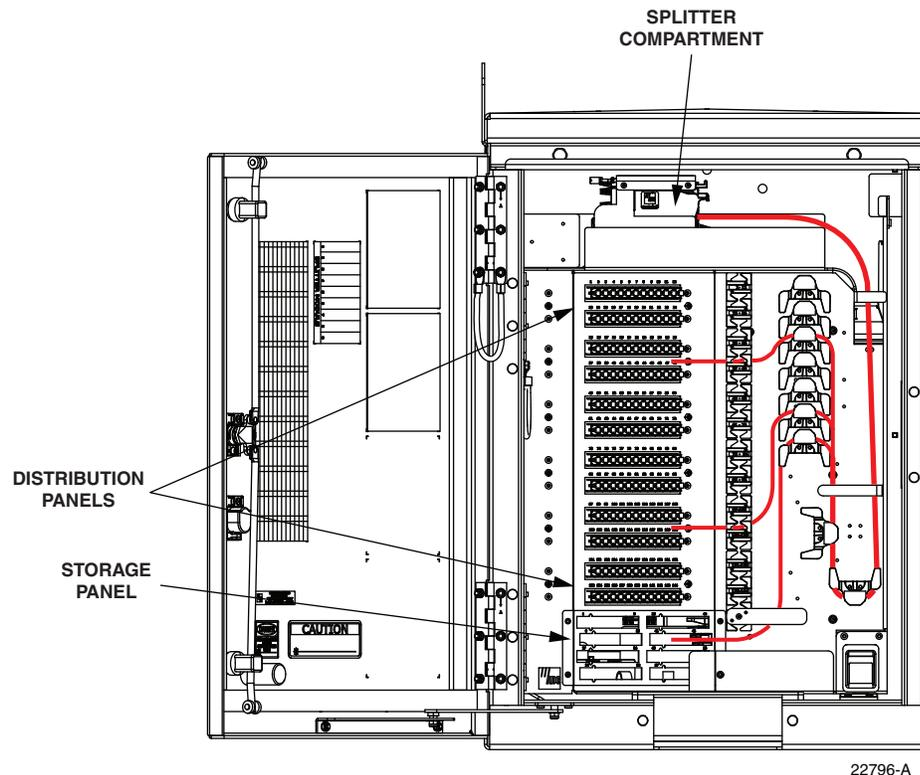

Figure 13. Routing Splitter Output Fibers
3. Use the radius limiters on the right side of the cabinet to store any excess fiber slack. Refer to Figure 13 for the routing guidelines.
6. Use the radius limiters on the right side of the cabinet to store any excess fiber slack. Refer to Figure 13 for the routing guidelines